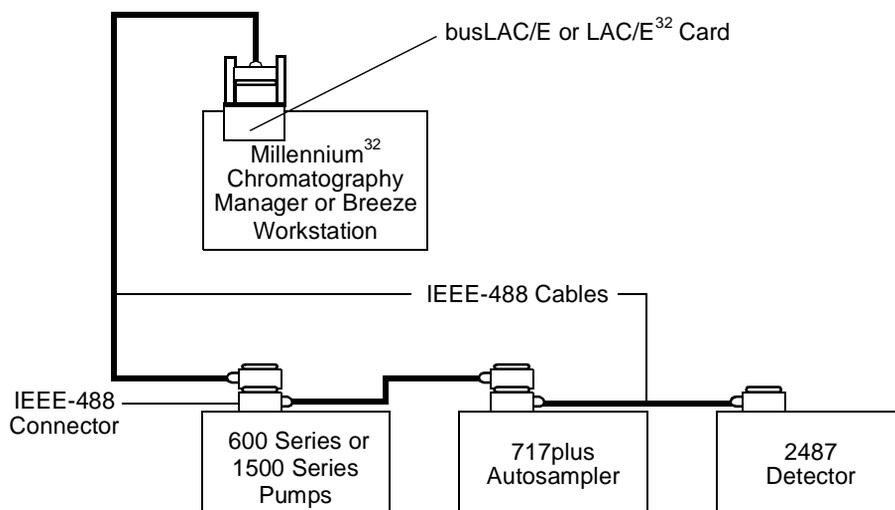
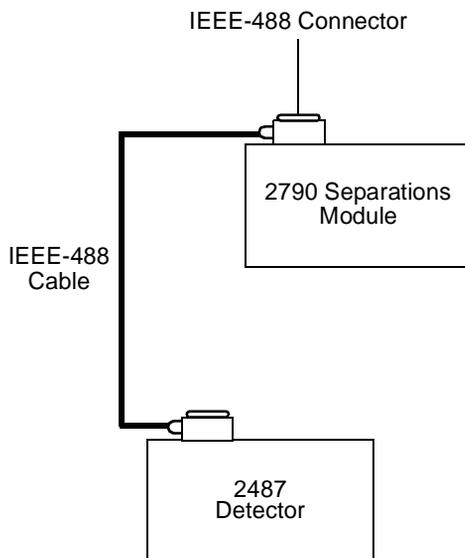

Figure 2-12 IEEE-488 Connections to the 2487 Detector in a Waters Millennium³² System
Figure 2-13 IEEE-488 Connections to the 2487 Detector in an Alliance System
- **Millennium or Millennium³² Chromatography Manager** – Attach the cable to the busLAC/E (laboratory acquisition and control environment) or the LAC/E³² card (Figure 2-12).
- **Alliance (Waters 2690, 2690D, or 2790 Separations Module and 2487 Detector) systems** – Attach the cable directly from the 2690, 2690D, or 2790 Separations Module to the 2487 Detector (Figure 2-13). For connections from the 2690 Separations Module to the 2487 Detector in a stand-alone configuration, see Section 2.6.2, Connecting the 2487 Detector to a 2690 Separations Module in a Stand-Alone Configuration. For connections from the 2690D or the 2790 Separations Module to the 2487 Detector, see the 2690D or 2790 operator's guide.
3. If you are using the 2487 Detector as part of a multicomponent configuration (see Figure 2-12 or Figure 2-13), connect a second IEEE-488 cable to the stackable connector on the detector. Connect the other end of the cable to the IEEE-488 port on the next component.